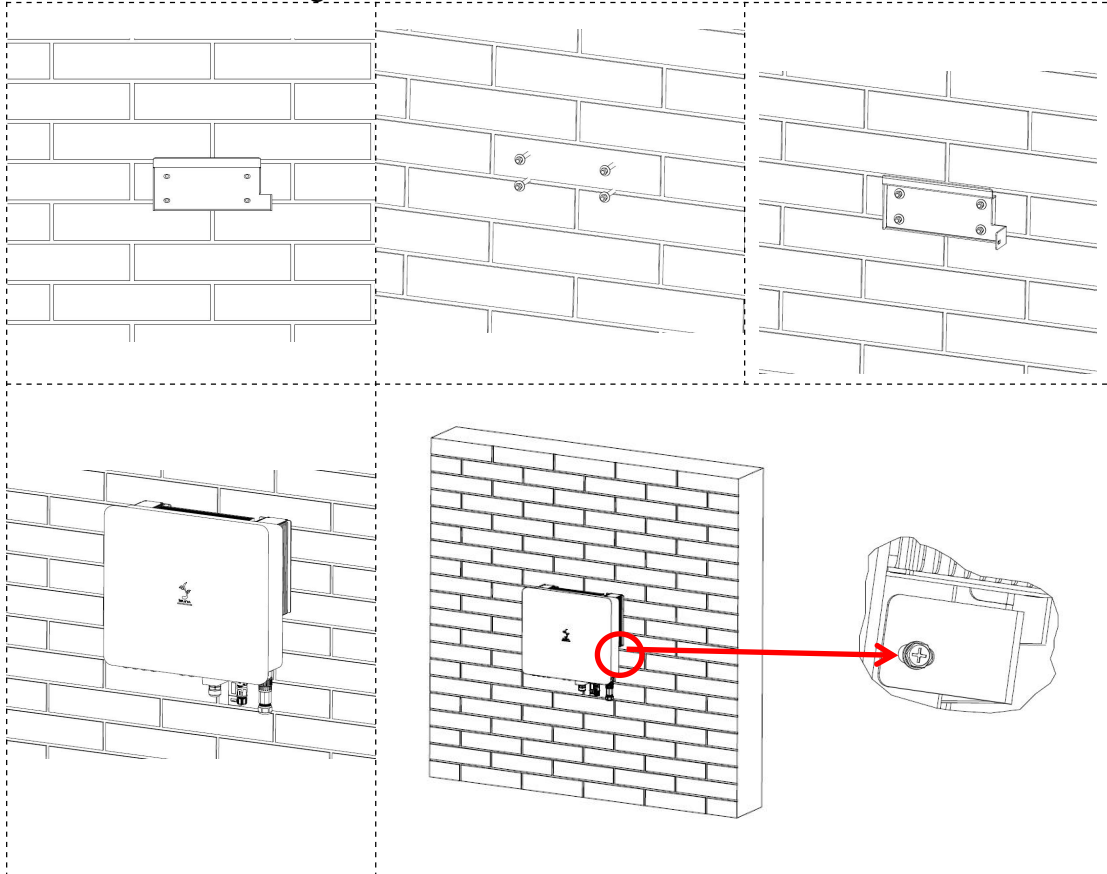

Figure 5.1 Wall-mounted parts installation instructions diagram
Step 4: Hang the inverter on the wall bracket, make sure the inverter is correctly inserted into the slot, and then fix the wall bracket to the inverter body case with screws, as shown in Figure 5.1.